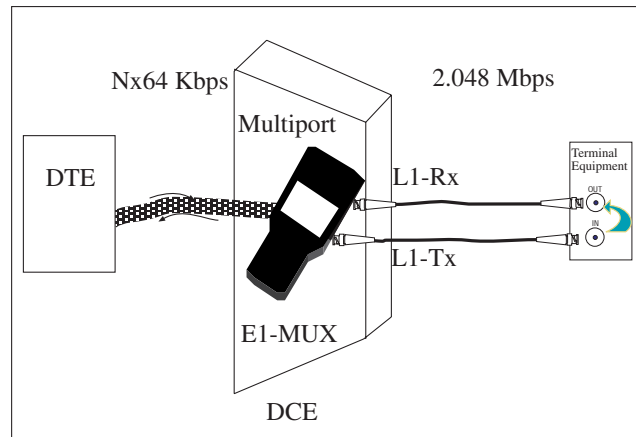

Figure 118 Emulating a Terminal Multiplex
2) Connect the E20 to the circuit according to Figure 118.
In Figure 118, the test set is connected to a IN/OUT monitor jack. The 2M signal is passed from the IN to the OUT jack and back to the L1-Rx jack on the test set. This setup allows you to check the multiplexed signal. The following steps outline the procedure for checking the multiplexed 2M signal.
You may also want to check the results for the other side. To do so, keep the same setup as shown in Figure 118, only this time you insert an error from the 2.048 Mbps terminal equipment. Change the B-LED setting in TEST CONFIGURATION to DTCM.